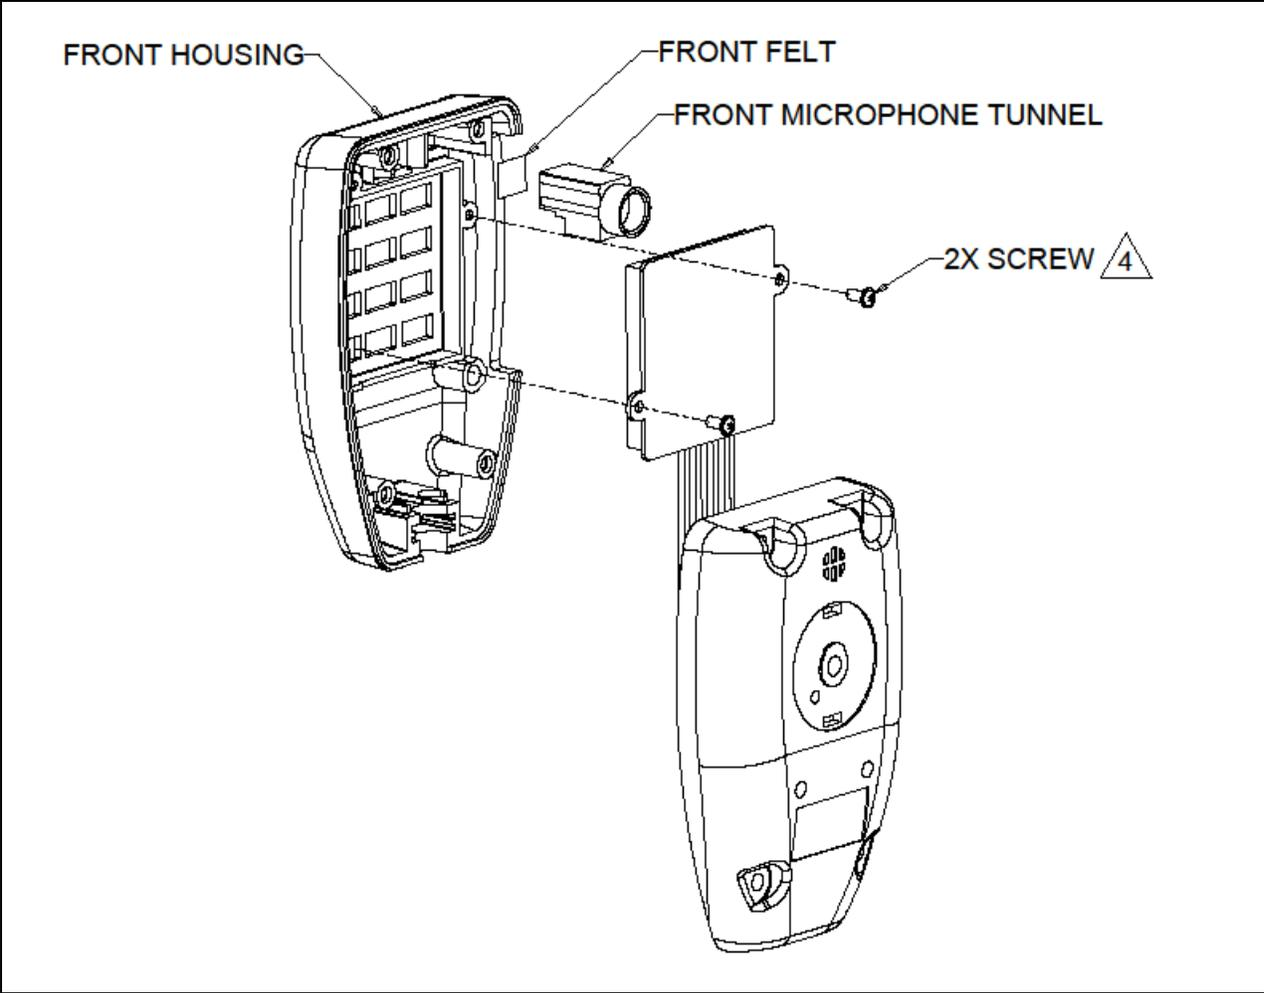

Figure 4
3. Refer to figure 4. Remove the two screws that hold the keypad in the front housing to remove keypad from unit.